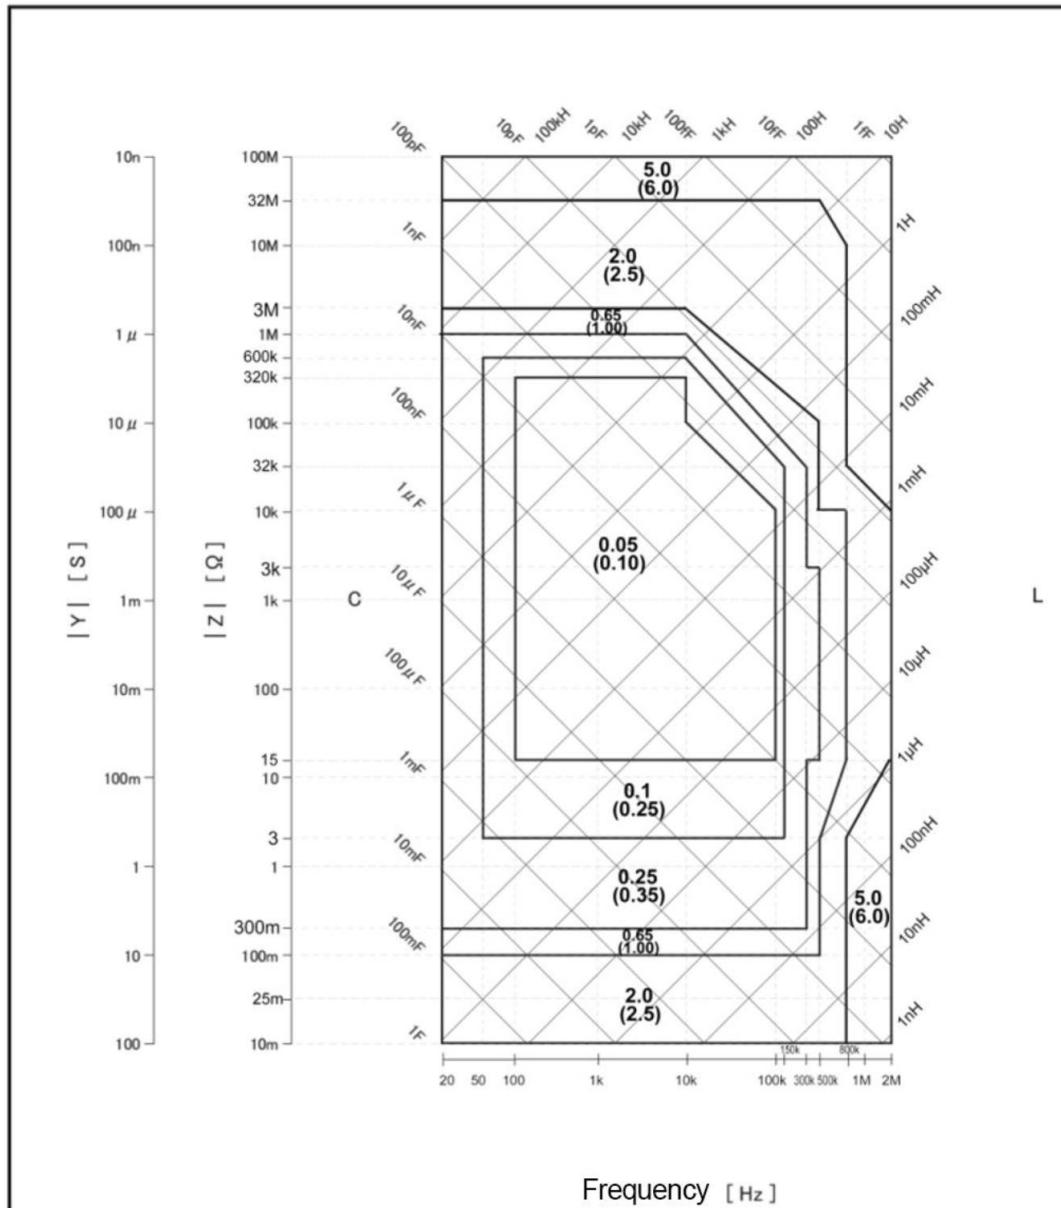

Figure 6-1 Basic Measurement Accuracy Factor A
- $A$ : Basic Measurement Accuracy (Figure 6-1)